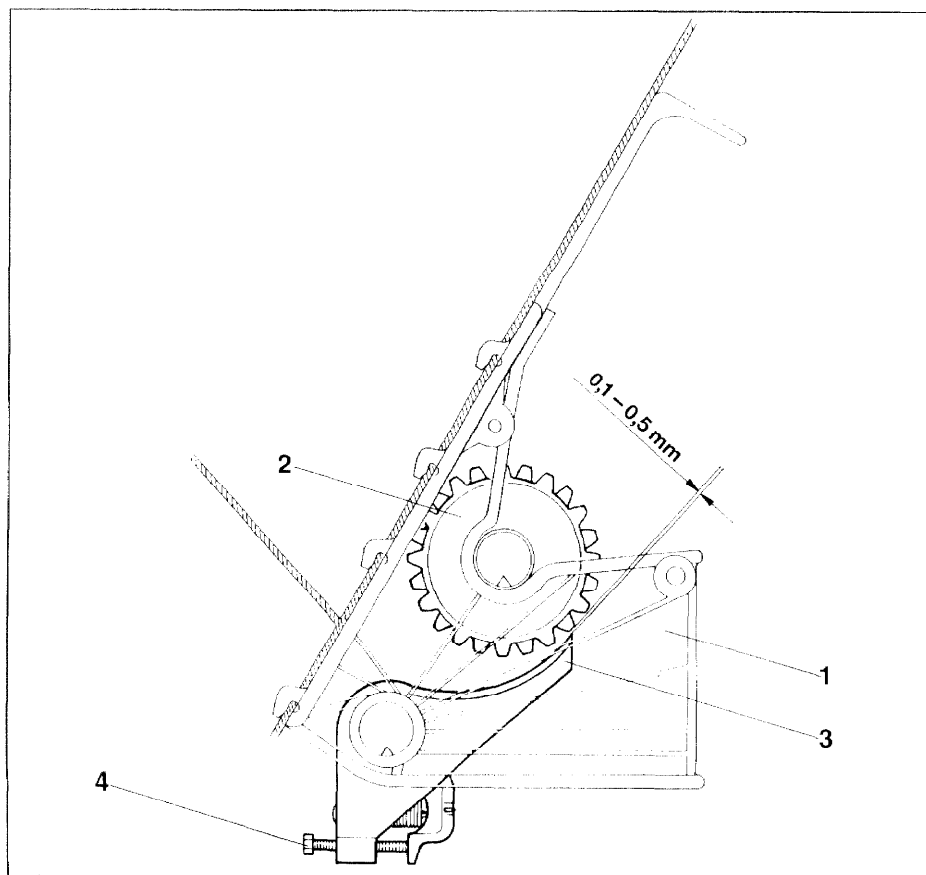

Fig. 42
- 2) Check whether the prescribed spacing of 0.1 mm to 0.5 mm (see Fig. 42) between the bottom flap (Fig. 42/3) and metering wheel (Fig. 42/2) of each metering wheel housing is maintained. For this the metering wheel to be checked should be turned by hand on the metering shaft.
- 3) In case of deviations set the prescribed spacing at the spring tensioning screw (Fig. 42/4).